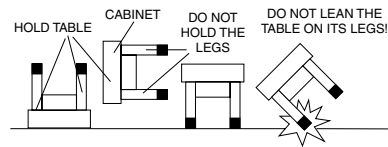

FIG. 4
13) Attach the two Slide Scorer Assemblies (#19) on top of the side rails using two (#20) Screws per scorer as shown Fig. 4. Pilot holes show the proper screw placement.
14). Install the Adjustable Goals (#17) by placing them into the pre-installed Adjustable Goal Anchors (#52). See Fig.4